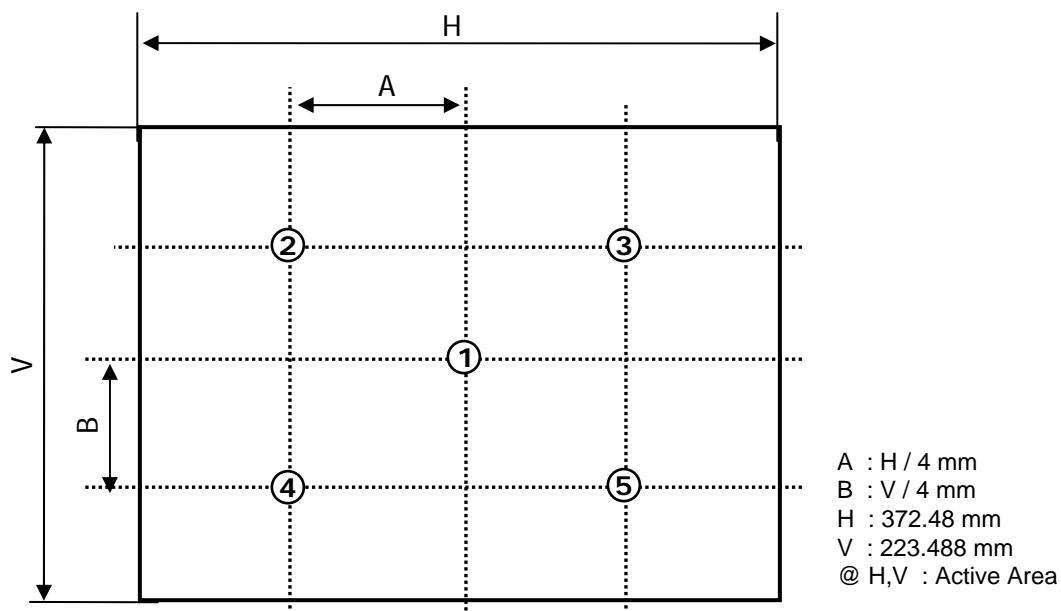

FIG. 2 Measure Point for Luminance
2. Surface Luminance(L_{WH}) is the luminance value at center 1-point across the LCD surface 50cm from the surface with all pixels displaying white. For more information see the FIG. 2.
For more information, see the FIG. 2.